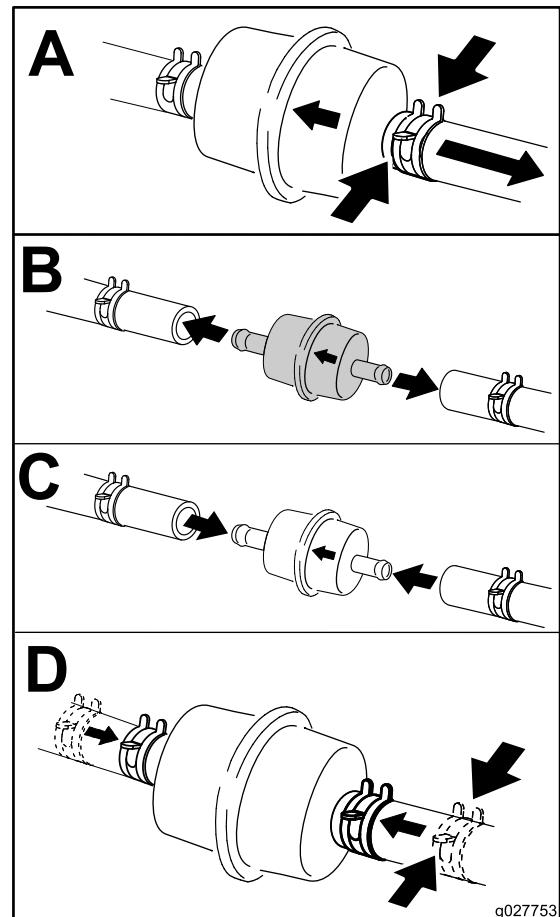

Figure 55
5. Replace the fuel filter (Figure 55).